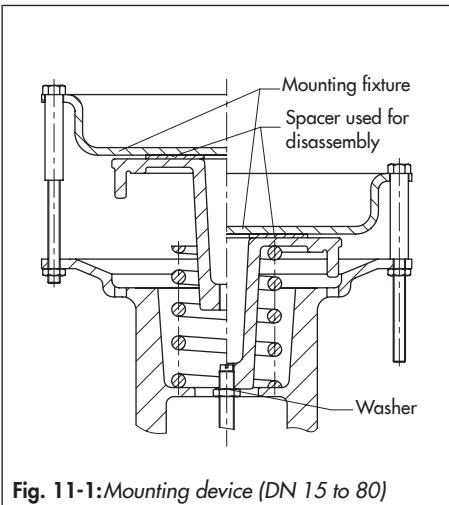

Fig. 11-1: Mounting device (DN 15 to 80)
To relieve the compression of the springs in the actuator, a mounting fixture is required (see Fig. 11-1 and 'Tightening torques, lubricants and tools' section in the annex).
2. Place shim (around 5 mm thick) on the spring plate (see Fig. 11-1). Place on mounting device and fasten with three clamping bolts and nuts. Turn the nuts until the spring plate (5.6) is evenly load-